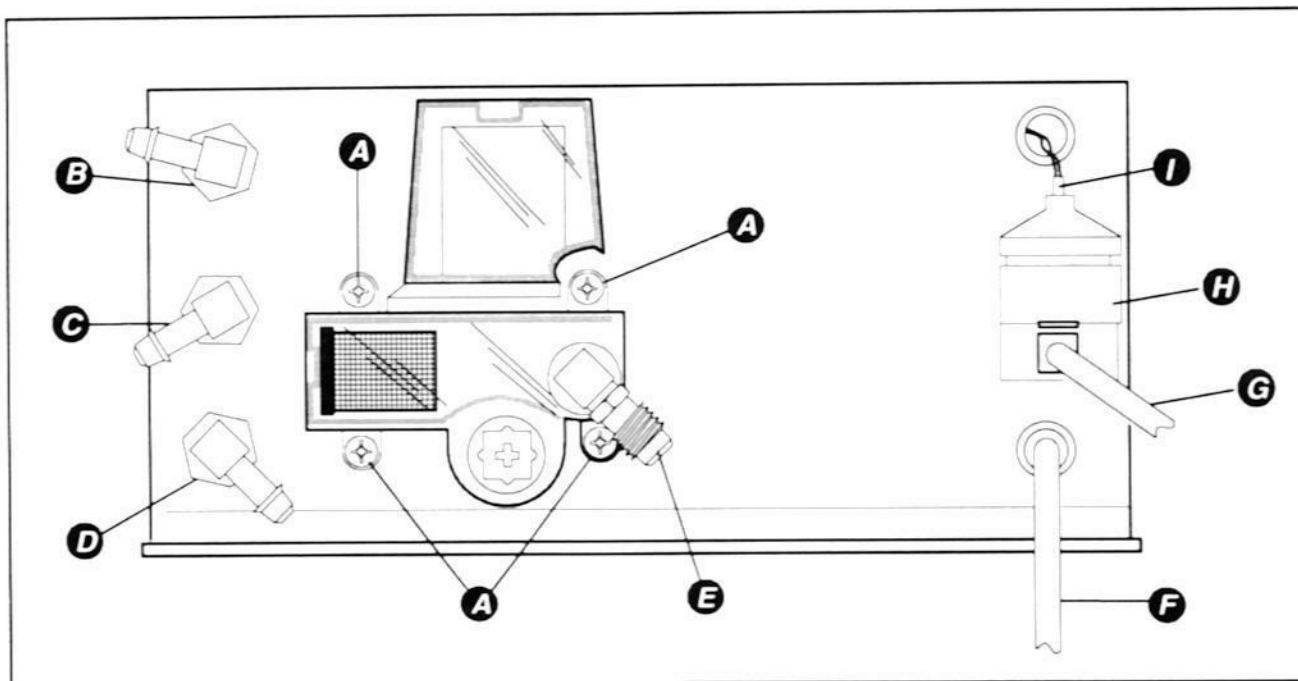

Figure 6-2
## Tri-Filter Assembly (Figures 6-2 and 6-3)
1. To remove the filter housing from the bench, remove the four (4) screws (A) holding the filter housing in place (refer to Figure 6-2).